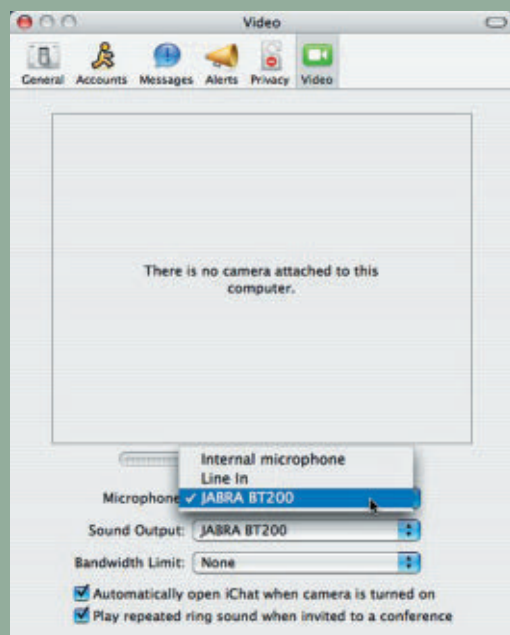

Figure 3: iChat AV > Preferences > Video pane
7. Set the "Microphone" and "Sound Output" pop-up menus to your headset, as shown in Figure 3.
Using iPodder, you can subscribe to several news feeds containing media files (see Figure 3).